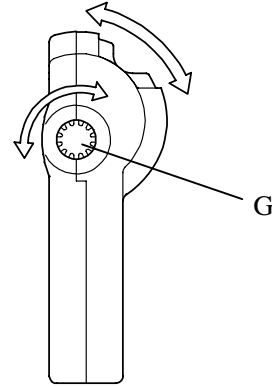

Fig.9-7
The knob (G) on the control lever is a throttle positioner.(Fig. 9-7)